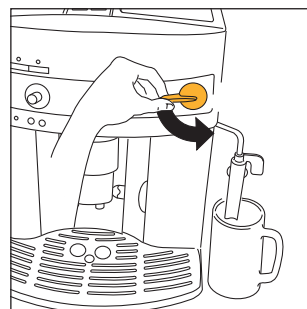
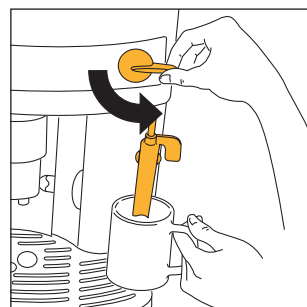
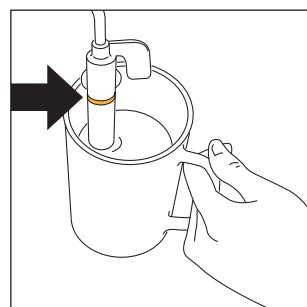

Fig.5
Fig.23
Fig.24
- IMMEDIATELY AFTER, WITHIN A MAXIMUM OF 30 SECONDS**, turn the steam knob anticlockwise until it stops (Fig.5) (it is normal for the machine to make some noise).
- Turn the steam knob half a turn in anticlockwise until it stops (Fig. 5): hot water will come out of the milk frother and start to fill the container underneath.
- **Immediately after, within a maximum of two minutes** (otherwise the machine automatically returns to the coffee function), dip the milk frother into the container of milk (Fig. 23), making sure not to immerse the line in relief on the milk frother (indicated by the arrow in Fig. 24) and turn the steam knob half a turn anticlockwise until it stops (Fig. 5). (Be careful, to avoid being scalded). The steam released will make the milk froth and increase in volume. To make creamier foam, dip the milk frother into the milk and rotate the container with slow movements from the bottom to the top (you are recommended to limit steam delivery to no more than two minutes at a time).
- Release a little steam for a few seconds by turning the steam knob anticlockwise until it stops (Fig. 5).